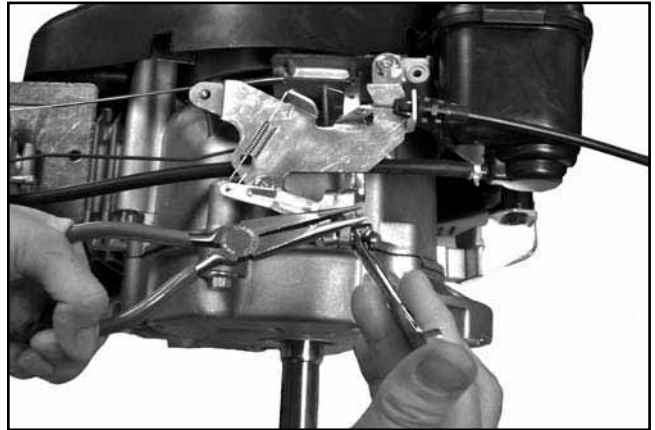

Figure 5-20. Adjust Governor Lever.
3. Grasp the cross shaft with a pliers and turn the shaft **clockwise** as far as it will go. Then torque the hex nut to **9.5 N·m (84 in. lb.)**. See Figure 5-20.